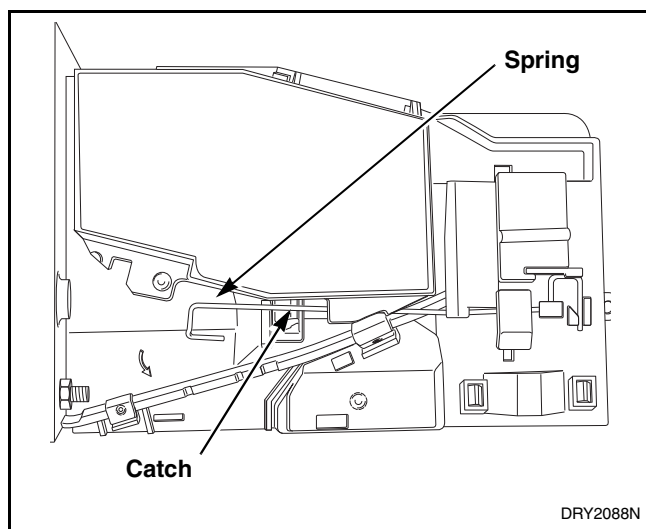

Figure 24
Coin Drops with Old-Style Spring (refer to Figure 24):
- Move spring downward until cover catch is free. Refer to Figure 24.